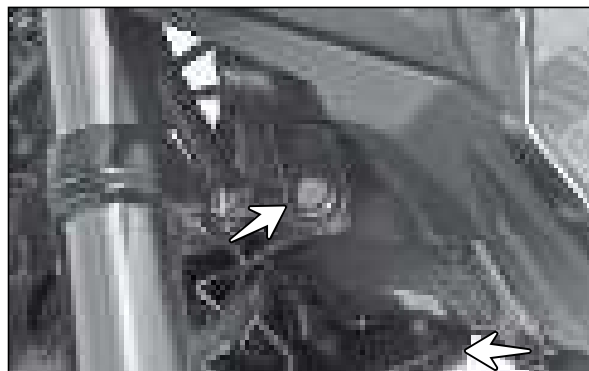

Fig. 5.73
- Loosen the hexagonal flange bolt (M6x16 - 2 Nos.) from the bottom mounting housing head lamp (both LH and RH) and tilt the housing head lamp forward. (Fig. 5.73)